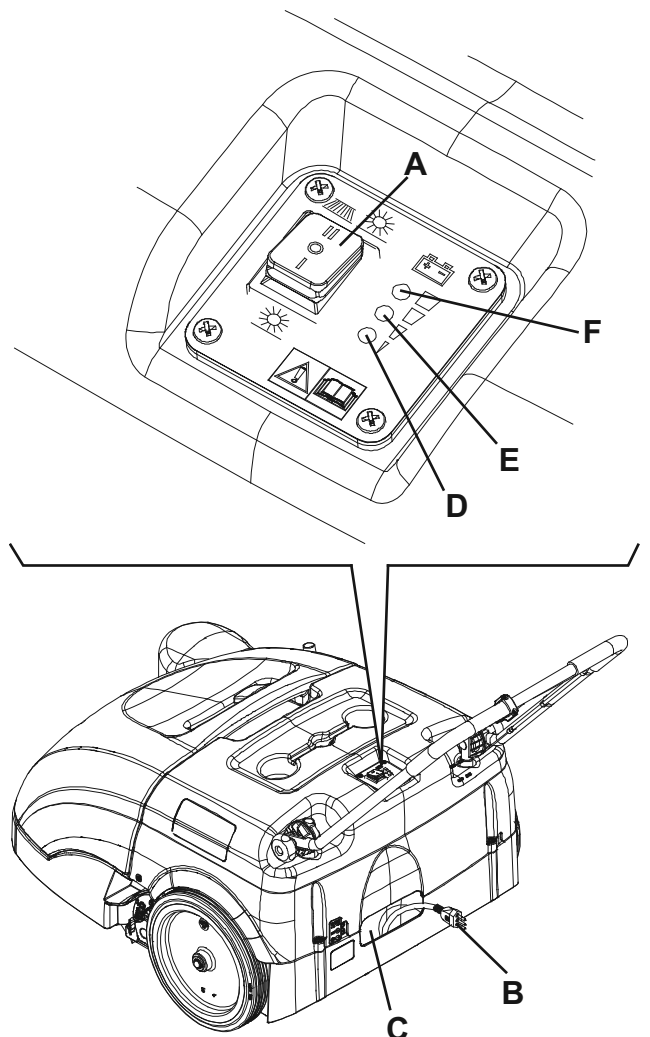

Figure 12
2. Turn the main switch (A, Fig. 12) to "0".
3. Remove the battery charger cable (B) from the housing (C) and connect it to the electrical mains.